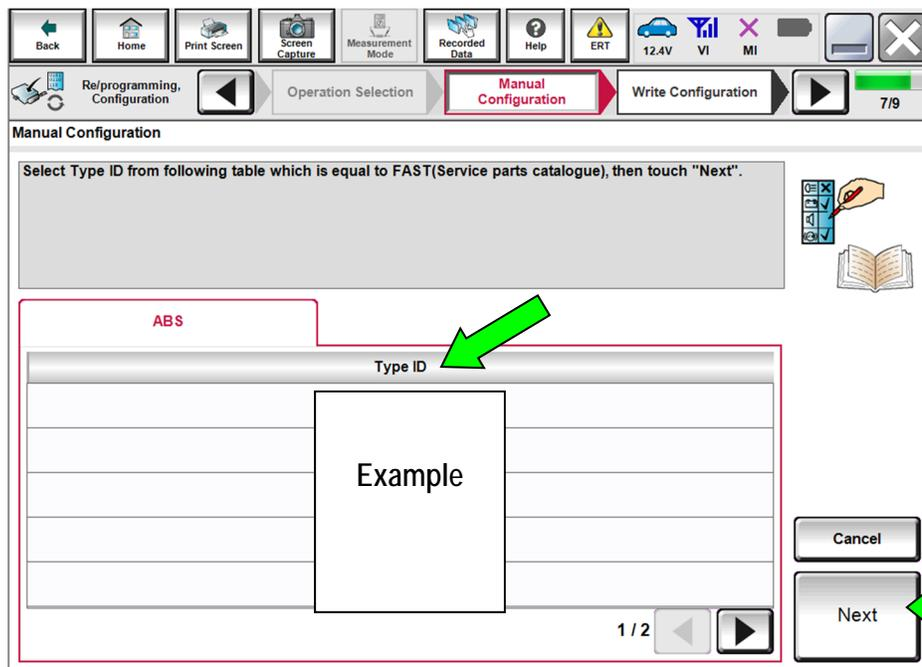

Figure 12
22. Select the Type ID (Figure 12) that was generated with the R1917/R1921 ABS Part Number Selection Tool in step 7.